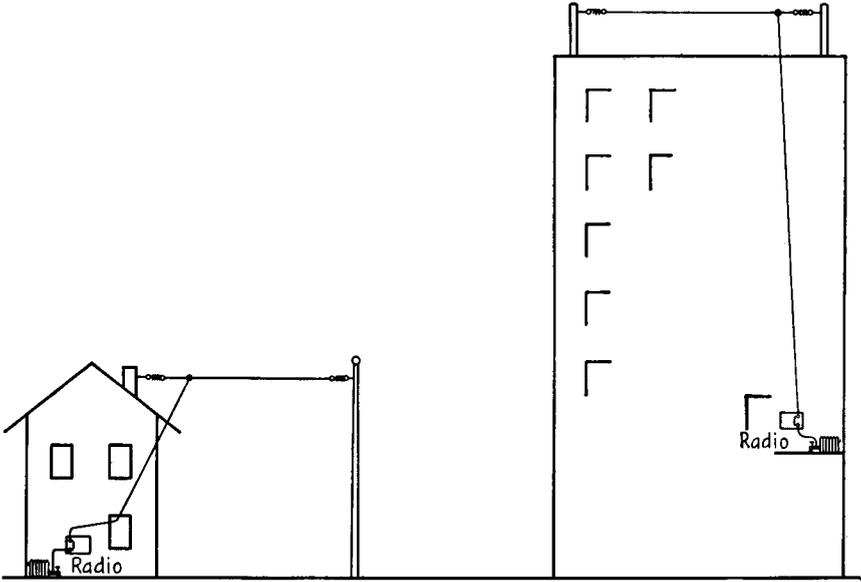
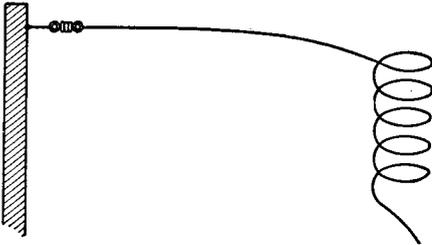

FIG. 17-4. Typical receiver antenna installations.
FIG. 17-5. Attaching one end of the antenna.
**Installing a receiver antenna.** The discussion of the antenna installation will be confined to the inverted-L type. Before actual construction, the serviceman must size up the situation. He must consider all the factors of antenna efficiency and then proceed to erect the antenna. Typical installations are shown in Fig. 17-4. Two rigid supports, sufficiently far apart and properly located, are chosen. Attach one antenna insulator firmly to one support, using a piece of the antenna wire. Then attach one end of the antenna wire by means of a nonslipping knot to the other end of the same insulator, as shown in Fig. 17-5. Antenna wire most commonly used is bare No. 14 copper wire, or standard wire of an equivalent size. Then attach the other end of the antenna wire firmly to the other insulator. Before proceeding with the mounting, solder the leadin near one end of the flat-top. This gives an L type of antenna. If the antenna wire used is of the enameled type, scrape the enamel away carefully before making this connection.